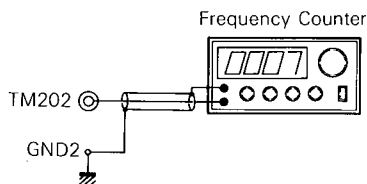

Fig. 13
- (1) Connect the frequency counter to TM202 (CLK) and GND2. (Fig. 13)
- (2) Remove wire connector CN203, turn the power switch on.
- (3) Rotate the L201 core and adjust so that the frequency counter shows a value of 4.3218MHz  $\pm$  0.02MHz.
- (4) After adjusting, turn the power off and connect the CN203 wire connector.